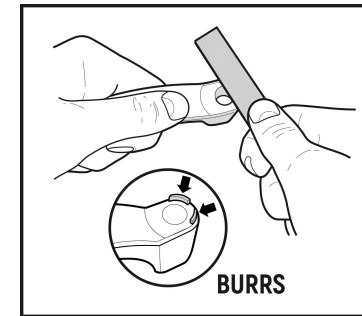

Fig. 24
**3.12** Inspect the contact surfaces on the right bearing cap where the bolt heads seat. Ensure that the surfaces are free of metal burrs. If burrs are present, remove them with a file to obtain a smooth, level surface (Fig. 24). This ensures that the bracket seats properly on the bearing cap during installation.